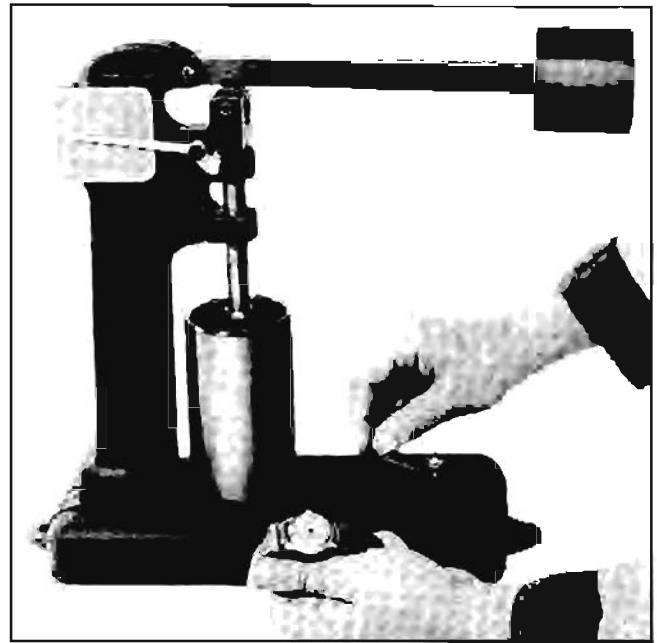

Fig. 6-89 Testing Leak Down Rate
After all lifters have been assembled, the leakdown rate must be checked before they are installed in the engine. Valve Lifter Leakdown Tester J-5790 (Fig. 6-89) is designed to test leakdown rate of lifters to determine whether or not they are within specified limits. As with previous service operations concerned with lifters, cleanliness is paramount. The tester cup, ram and ball should be thoroughly cleaned, and testing should be done in an area free of dust and dirt. The testing procedure is described in the following steps:
6. Raise weight arm to allow plunger spring to expand fully; lower arm onto ram and commence turning crank slowly (1 revolution every 2 seconds). Time indicator travel from lower line (first line above set line) to line marked $.125$ or $\frac{1}{8}$ ", while still rotating cup with crank (Fig. 6-89). Lifter is satisfactory if rate is between 12 and 60 seconds.